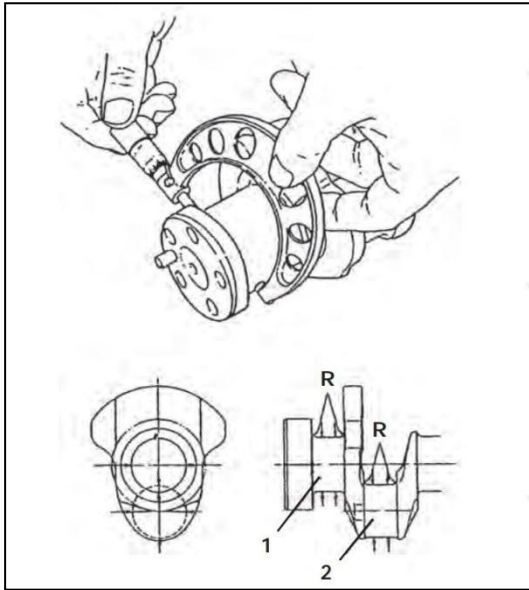

Figure 123
5. Measure the outside diameter of each crankpin (Figure 123, 2) and main bearing journal (Figure 123, 1). See the Crankshaft mechanical specifications chart. Take measurements at several places around each bearing surface. If not within specification, grind the journals and install undersize bearings, or replace the crankshaft.